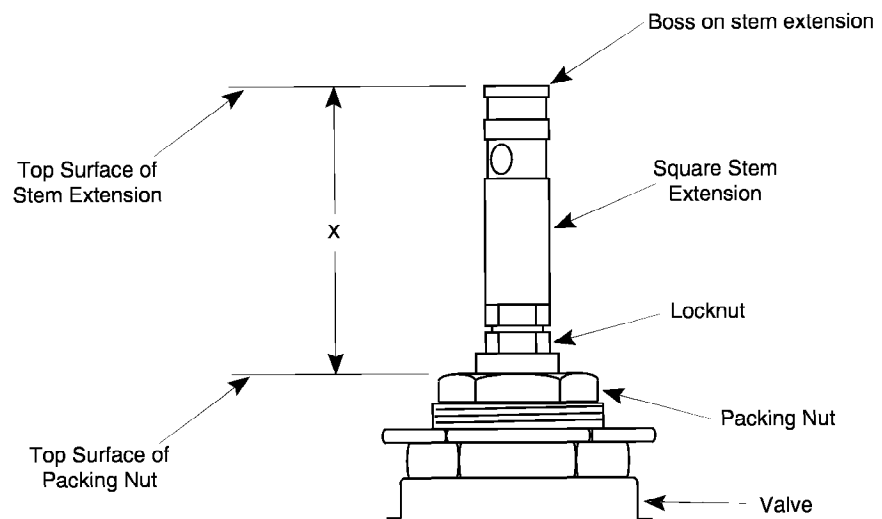

Figure-6 Stem Extension Height Adjustment.
3. Adjust the height of the stem extension to the "X" dimension shown in Table-2, Table-2, or Table-3 for the appropriate valve body. The "X" dimension is from the top of the stem extension to the top of the valve packing nut (Figure-6).